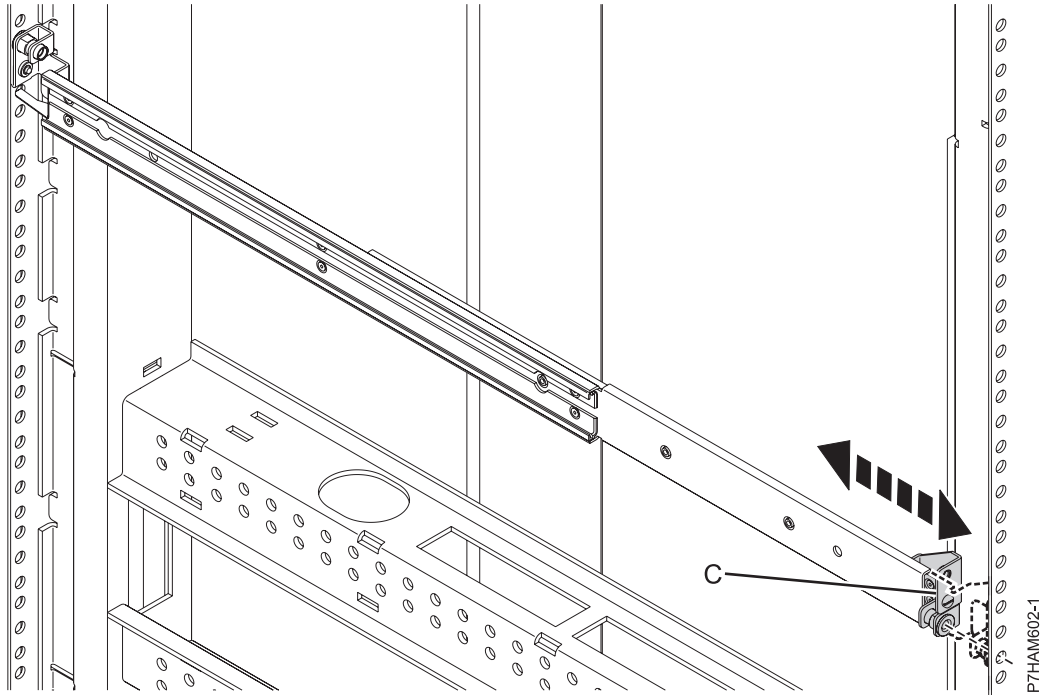

Figure 9. Expanding the rail to the rear of the rack
- d. At the rear of the rack, locate the two marks that you made previously on the EIA strips. Compress the rail (C) as shown in Figure 9 on page 10, and then expand the rail carefully toward the marks until the rail end meets the rear rack flange.